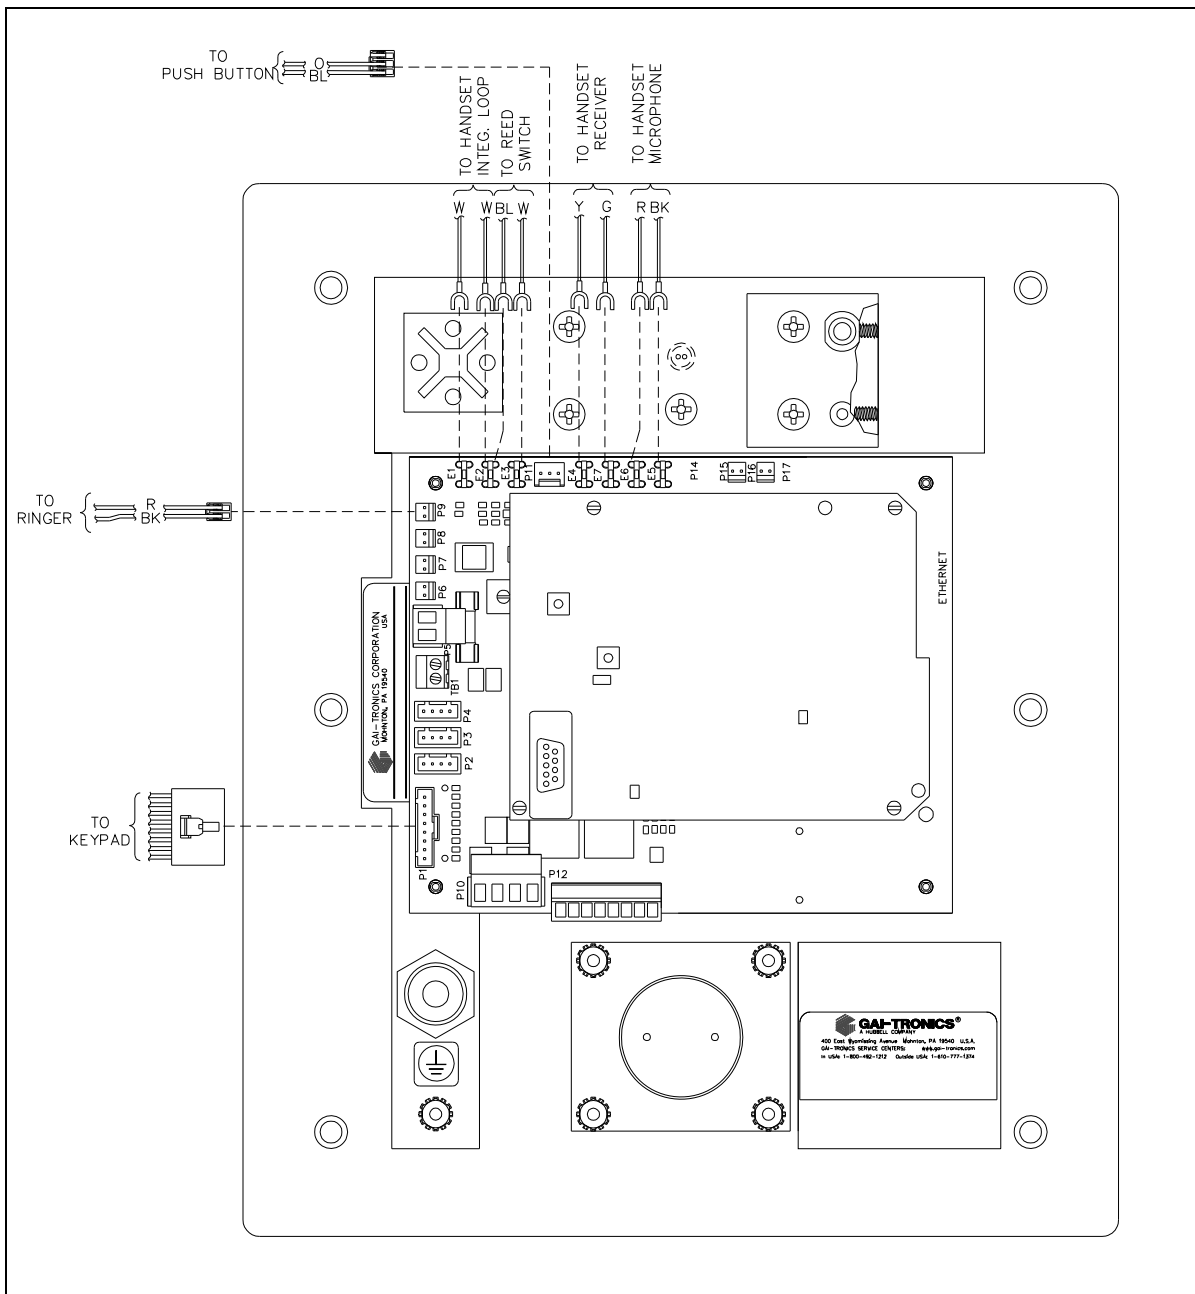

Figure 3. Model 276-700
1. Align the holes of the new PCBA with the snap-on nylon standoffs in the telephone, maintaining proper orientation. Refer to Figure 3 as an example.
3. Reconnect the handset, hookswitch, volume control push button, keypad, and ringer cables to the PCBA. Refer to Figure 3.
4. Reconnect the Cat5 or Cat5e cable to the VoIP Circuit PCBA. Refer to Figure 3.